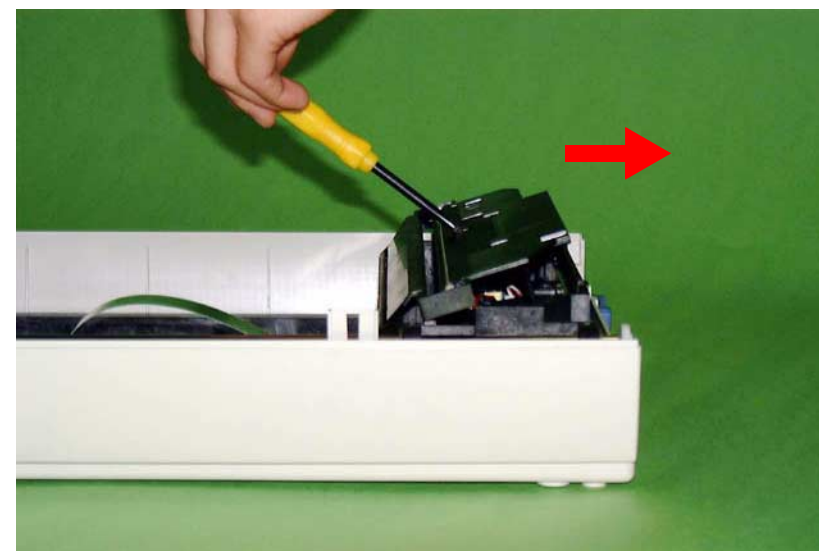

Figure 4-9. Carriage Unit Disassembly (2)
5. Using a standard screw driver, lift up the carriage cover in the Carriage Unit, and then move it to the back to remove it. (See Figure 4-9.)